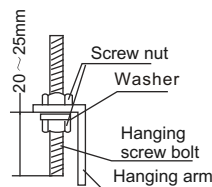

Fig.42-10
2. Location the hanging arm on the hanging screw bolt. (Refer to Fig.42-10)